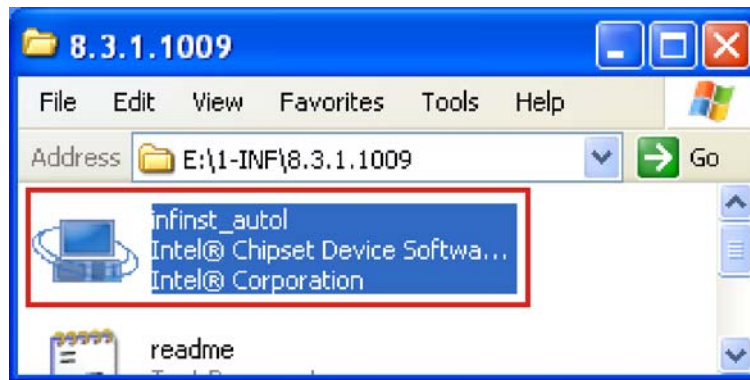

Figure 7-3: Intel® Chipset Driver Directory
Step 2: Browse to "E:\1-INF\8.3.1.1009", and double-click "infinst_autol" in **Figure 7-3**.